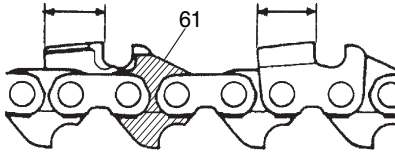

Fig. 47
- 5) Keep all cutters the same length. (Fig. 47)
Do not file or alter the tops of bumper drive links (61). (Fig. 47).